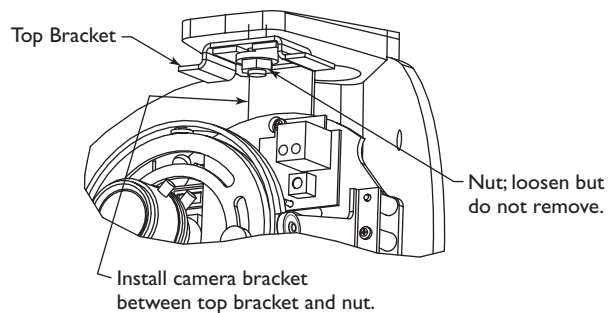

Figure 2 Rear Plate Exploded View
- Loosen the nut located on the back plate approximately 6 turns without removing, and insert camera bracket between the nut and retaining bracket (see **Figure 2**).